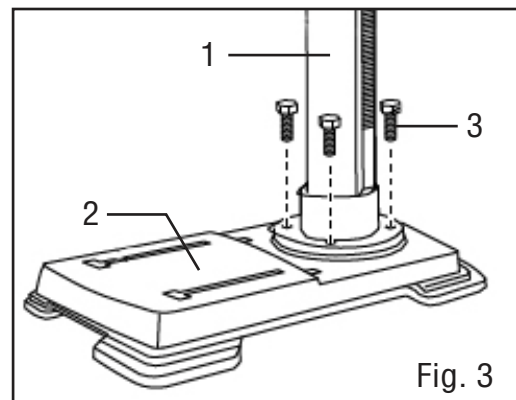

Fig. 3
## ATTACHING COLUMN TO BASE (FIG. 3)
1. Place the column assembly (Fig. 3 - 1) on the base (Fig. 3 - 2), aligning the column support holes to the base holes.
2. Install a hex head bolt (Fig. 3 - 3) in each column support hole and tighten bolts using the adjustable wrench (not included).